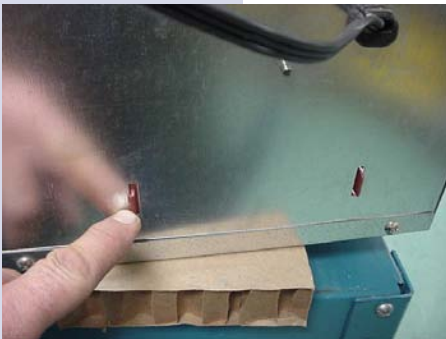

Figure 10
1. Push on one of the spark module clips located on one side of the gas cooktop. (Figure 10)